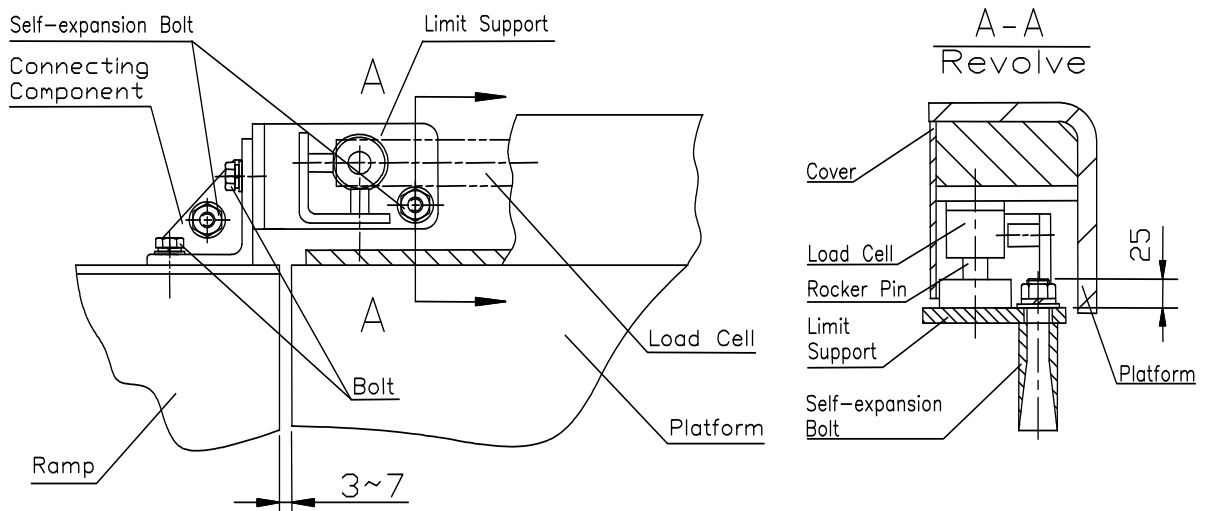

Figure 5-2 Top-of-Floor Installation
2. Drill the anchor holes, using the limit support as a guide. Four M10 self-expansion bolts are provided with each NTEP/NTNN floor scale for securing limit supports to floor (see Figure 5-2).
1. Each ramp is shipped complete with an attachment kit of parts: including four bolts (M10×15), four washers (10) and four spring washers (10) for connecting ramp and limit support by connecting component.
2. Insert the M10×15 bolts with washers and spring washers through the holes on connecting component into the threading holes on limit support and ramp (see Figure 6-1). Tighten the bolts then (see Figure 5-2).